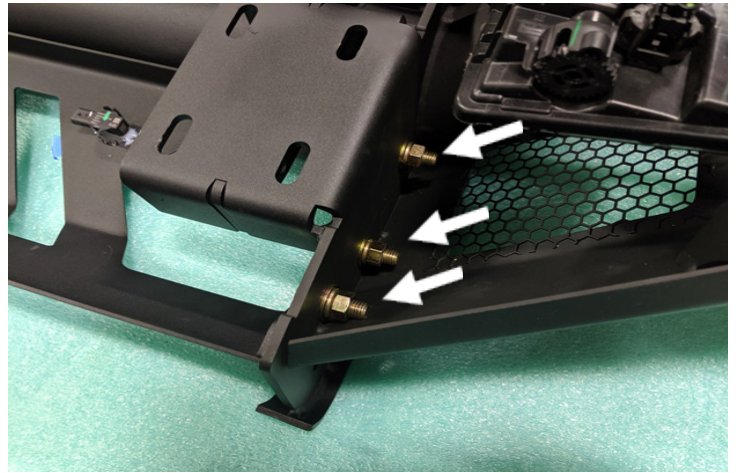

Figure 31
32. Use a pair of 3/4" wrenches and the provided six (6) bolt stacks of 1/2"-13 x 1", yellow zinc hex bolt, flat washers, lock washer, and hex nut, fully install the bumper lower guard(22097 or 22098) into the bumper(22091). (20260-HW) Figure 31